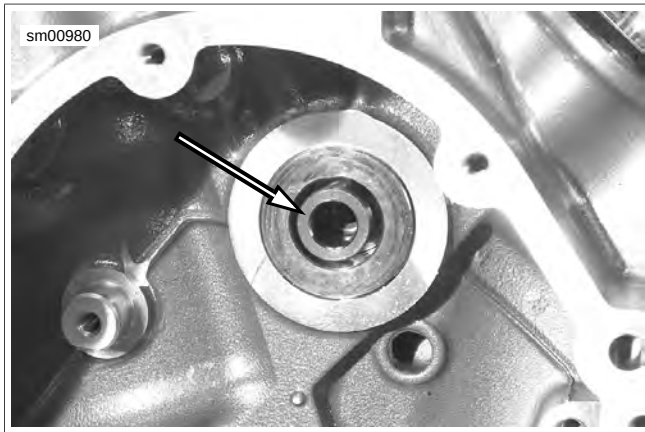

Figure 3-29. Water Pump Shaft
2. See Figure 3-29. Insert water pump shaft through case until flush with case on cam drive side.